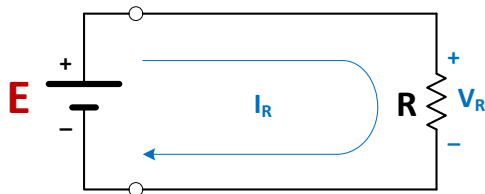
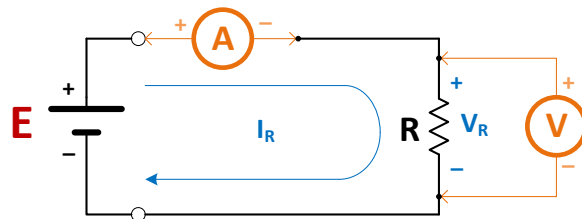

Figure 2.0a: Simple DC Circuit
Figure 2.0b: Simple DC Circuit showing
- (ii) Construct and simulate this circuit of **Figure 2.0a** on MultiSIM, and set it up as depicted in **Figure 2.0b** to measure the current, **I_R** and voltage, **V_R** when **R** = 2.2 kΩ. Vary the DC source-voltage, **E** such that the voltage, **V_R** across the resistor has the values listed in **Table 2.0**. For each listed source-voltage, measure the corresponding current, **I_R** and voltage, **V_R**. Record these simulation results in **Table 2.0**.
2. Build and connect the circuit of **Figure 2.0a** with **R** = 2.2 k Ω on the breadboard.
Note 1: When using the DMM as a Voltmeter, connect the DMM in parallel with the resistor as shown in the Figure 2.0b. Note 2: When using the DMM as an Ammeter, you must connect it in series with the resistor you need to measure the current passing through it as shown in the Figure 2.0b.
5. Turn OFF the power supply. Replace the 2.2k Ω resistor in circuit of **Figure 2.0a** with 3.3k Ω resistor. Repeat the above **Step 4**, and list your results in **Table 2.4b**.